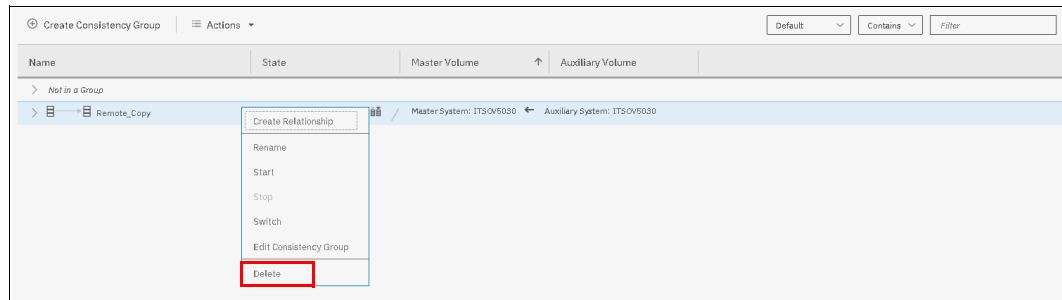

Figure 10-125 Selecting the Delete Consistency Group option
2. In the left column, select the Consistency Group to delete and right-click **Delete**, as shown in Figure 10-125.